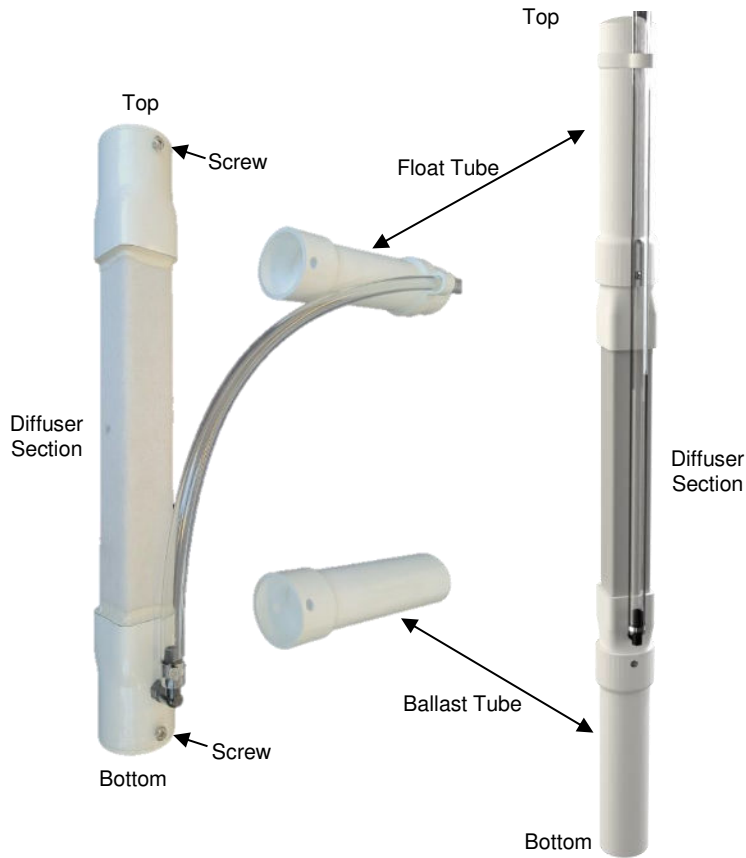

Figure 19, Diffuser Assembly, Part One
2. Remove two-(2) stainless screws from center diffuser section. See Figure 19.